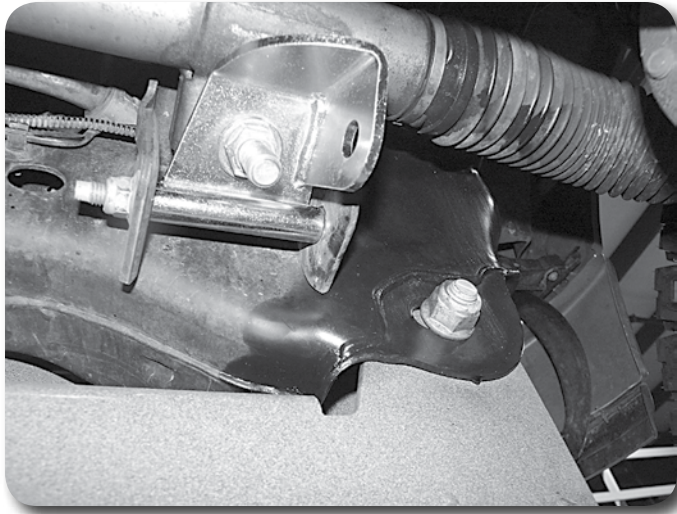

Figure 2
4. Install bushings and cup washers on end of stabilizer. Attach stabilizer to passenger's side rack and pinion mount, included with suspension lift kit and tie rod mount. **Figure 2**